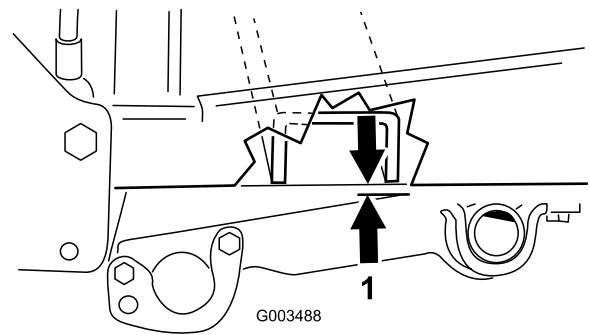

Figure 18
- B. Rotate the ball joint shown in Figure 18 to change the length of the rod as follows: